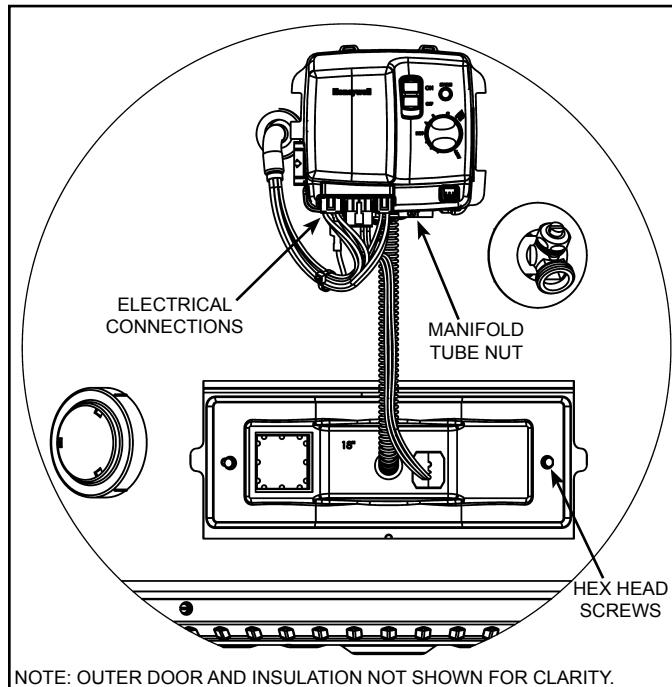

Figure 15
5. Unplug all the electrical connections from the bottom of the gas control valve/thermostat (see Figure 15).
6. Using a 3/4" open end wrench remove the manifold tube from the gas control valve/thermostat (turning counter-clockwise for natural gas, clockwise for L.P.). Grasp the manifold tube and push down slightly to free the manifold tube from the gas control valve/thermostat (see Figure 15).
8. Use a 1/4" nutdriver or 1/4" socket & ratchet to loosen the 2 hex head screws on the inner door so the inner door/manifold/burner assembly can be removed (see Figure 15).
2. After confirming no materials of any type are between door gasket and combustion chamber shield, align the screws on the inner door with the screw holes on the combustion chamber and tighten with 1/4" nutdriver or 1/4" socket & ratchet (see Figure 15). After tightening the inner door screws, visually inspect area around door gasket and skirt for spaces or gaps. The door gasket MUST be sealed completely in order for the water heater to perform properly. DO NOT OPERATE THE WATER HEATER IF THE DOOR GASKET DOES NOT CREATE A SEAL BETWEEN MANIFOLD DOOR AND COMBUSTION CHAMBER.
3. Reconnect the manifold tube to the gas control valve/thermostat (**Note:** Do Not apply any thread sealant at this connection). To prevent any cross threading the manifold tube should be started by hand (turn clockwise for natural gas, counter-clockwise for L.P.). Upon tightening with the fingers and confirming it has not been cross threaded, tighten nut with a 3/4" open end wrench (see Figure 15).
2. After confirming no materials of any type are between door gasket and combustion chamber shield, align the screws on the inner door with the screw holes on the combustion chamber and tighten with 1/4" nutdriver or 1/4" socket & ratchet (see Figure 15). After tightening the inner door screws, visually inspect area around door gasket and skirt for spaces or gaps. The door gasket MUST be sealed completely in order for the water heater to perform properly.
3. Reconnect the manifold tube to the gas control valve/thermostat (**Note:** Do Not apply any thread sealant at this connection). To prevent any cross threading the manifold tube should be started by hand (turn clockwise for natural gas, counter-clockwise for L.P.). Upon tightening with the fingers and confirming it has not been cross threaded, tighten nut with an 3/4" open end wrench (see Figure 15).